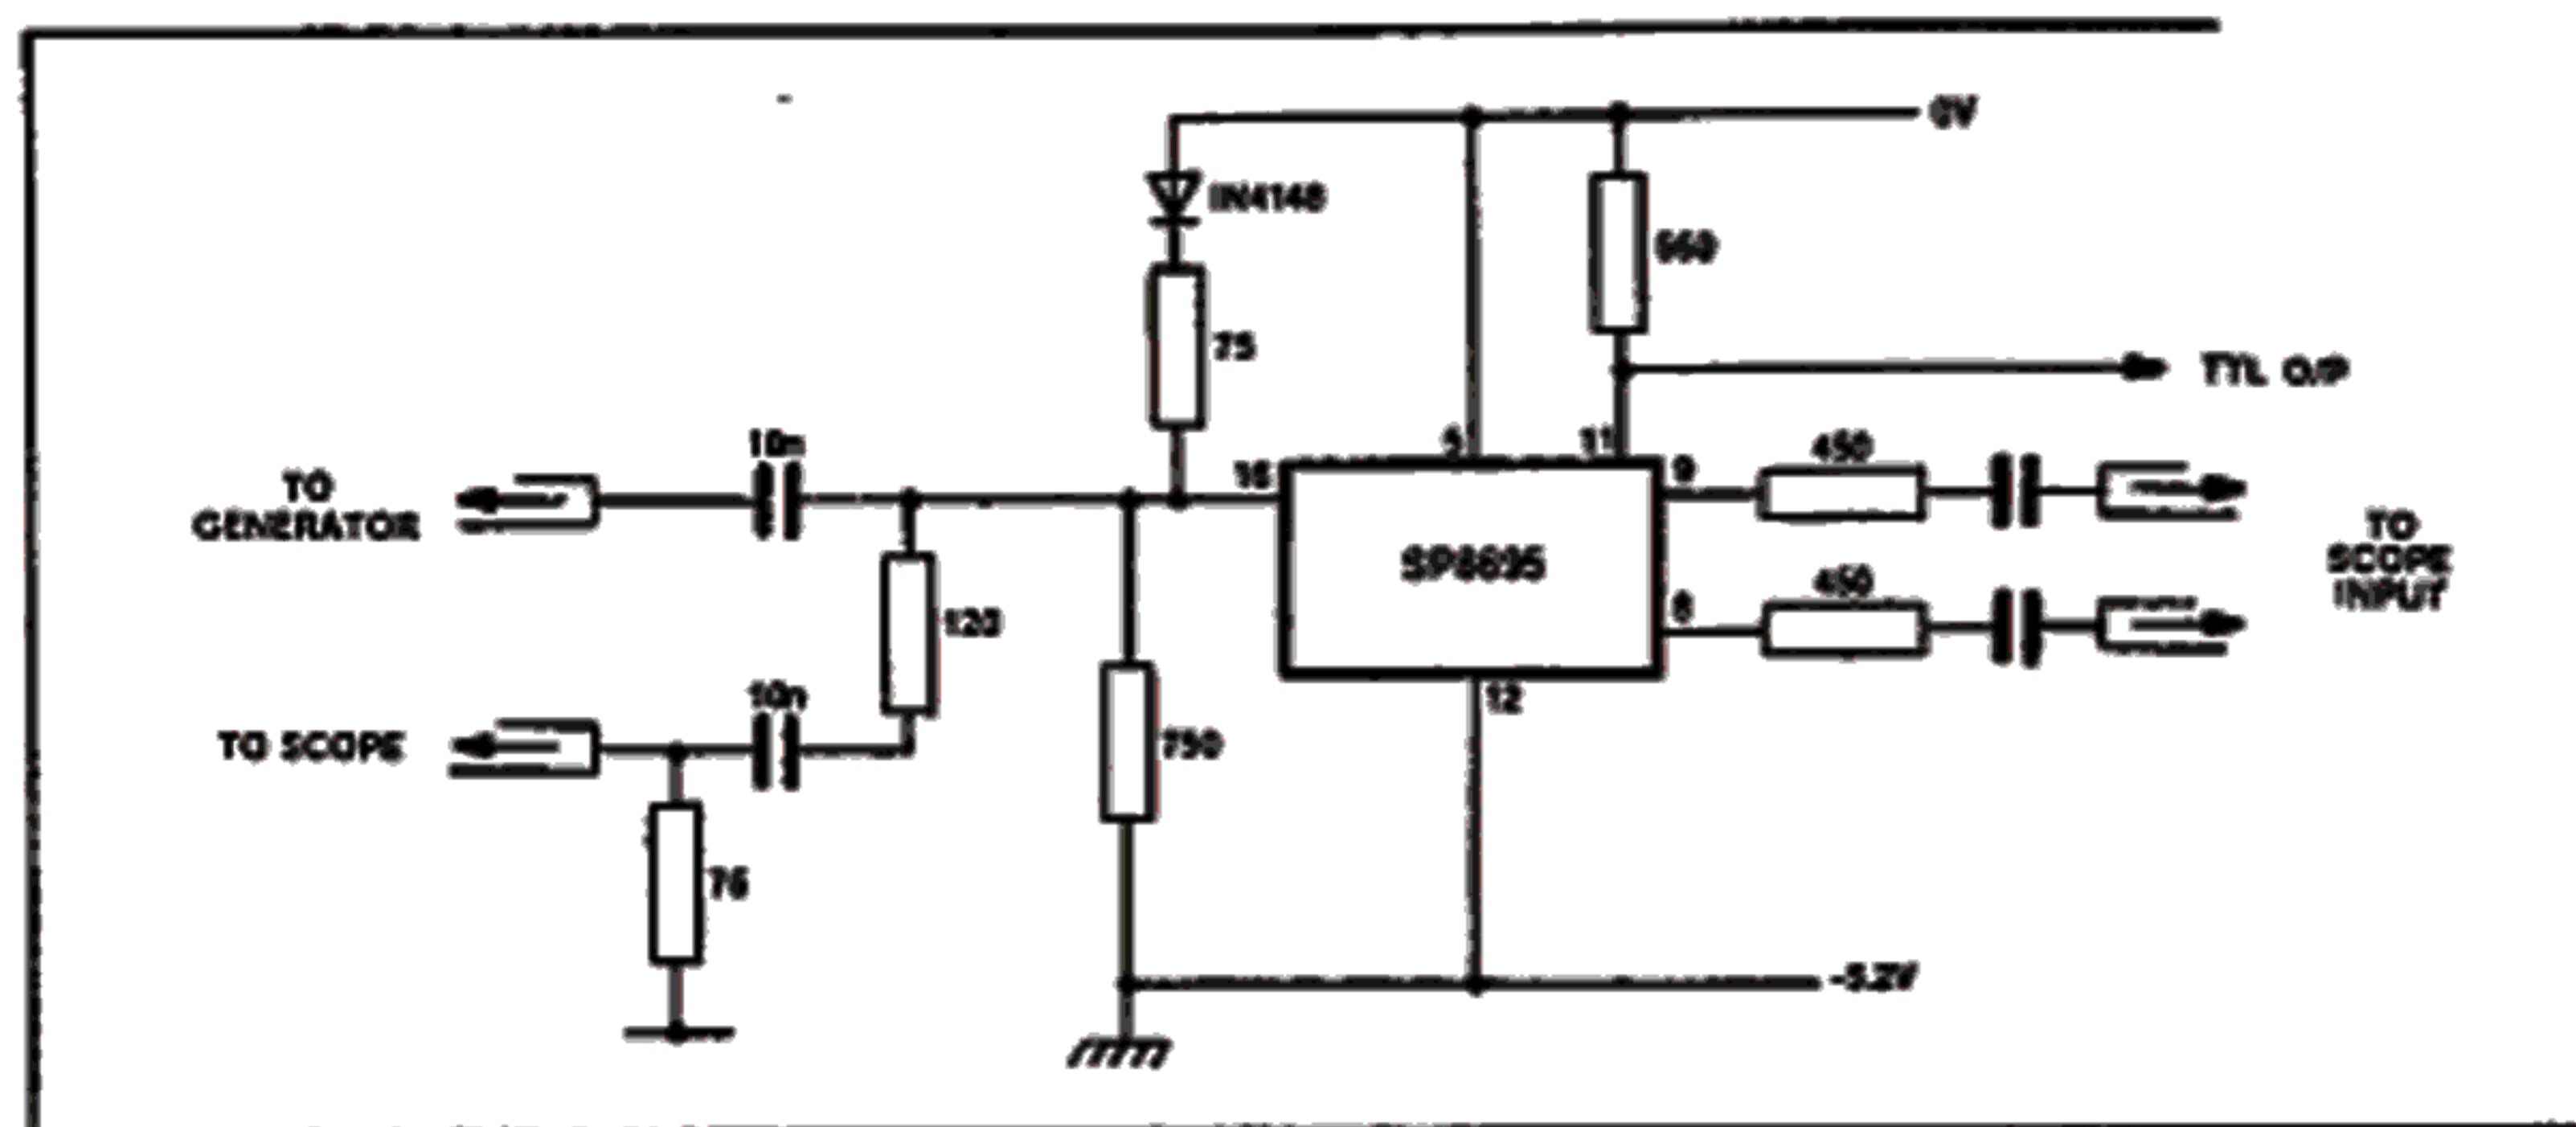

Fig.6 Test circuit
1. The clock inputs can be driven from ECL II, III and 10K. The input reference voltage (-3.8V at 25°C) is compatible with ECL II, III and 10K over the specified temperature range. The inputs can also be capacitively coupled by addition of external bias as shown in Fig. 6. Each input has an internal pull-down resistor of 10k, and unused inputs can therefore be left open circuit. They should be bypassed to RF where maximum noise immunity is required.
6. The TTL/CMOS output has a free collector and the high state output voltage will depend on the supply that the collector load is taken to. This should not exceed 12V. The rise and fall time of the open collector output waveform is directly proportional to load capacitance and load resistance value. Therefore load capacitance should be kept to a minimum and the load resistor kept to a minimum compatible with system power requirements. In the test configuration of Fig. 6 the output rise time is approximately 10ns and fall time is 7ns typically.